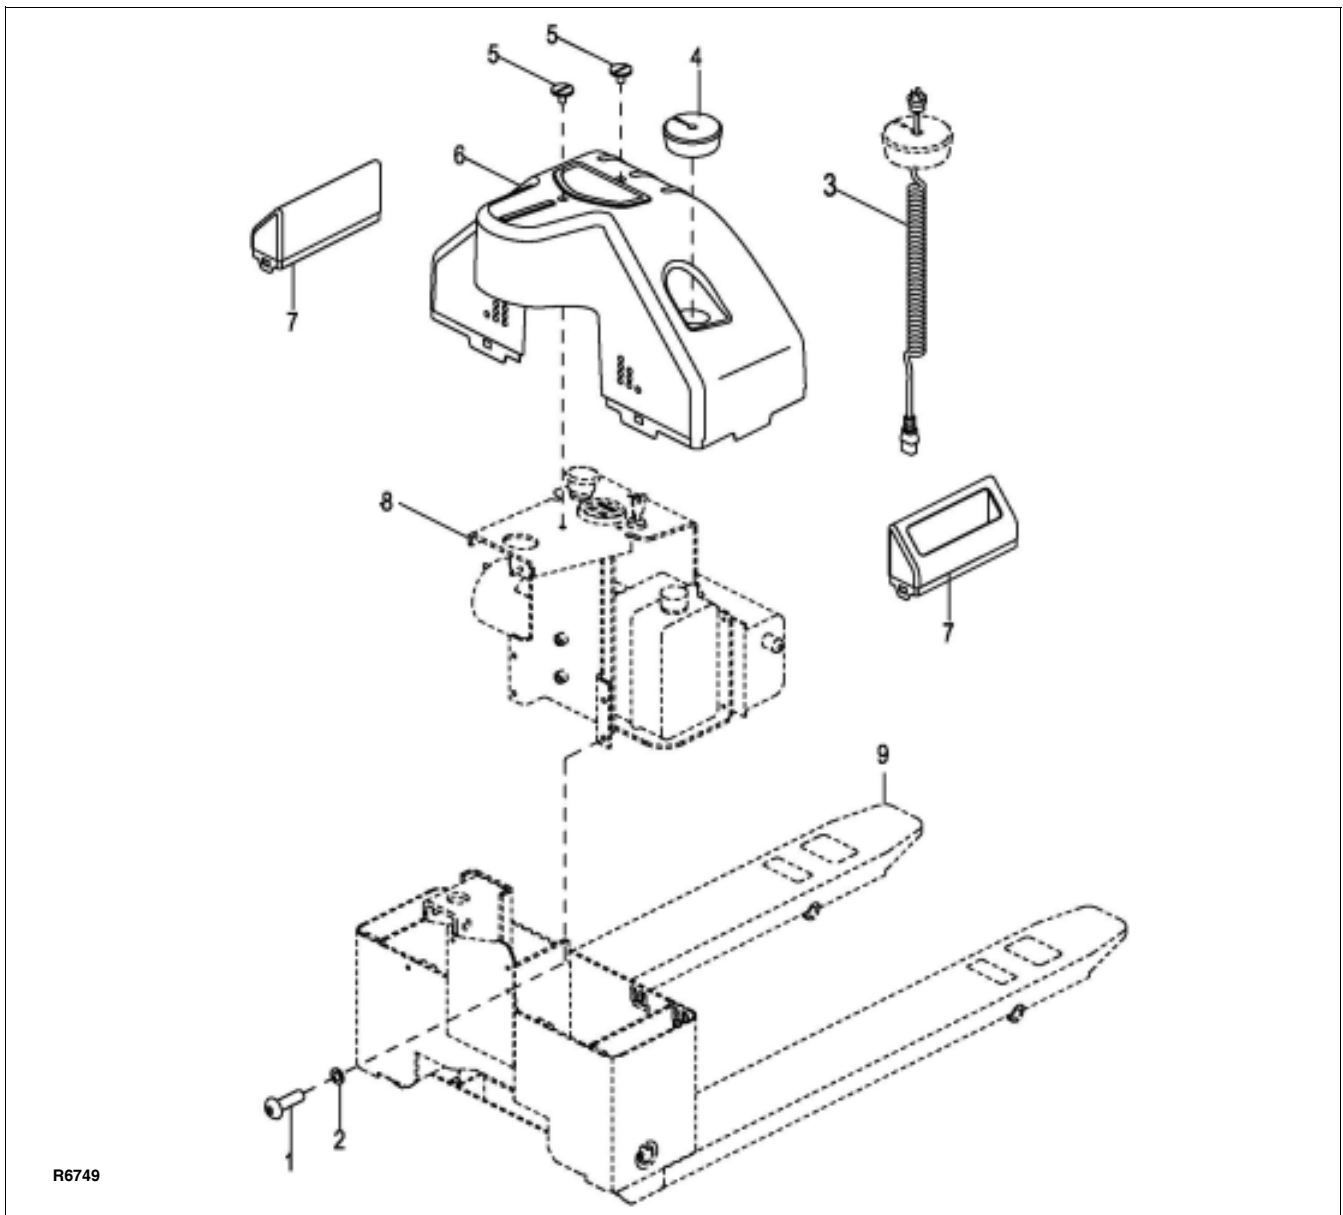

Figure 9-1 Compartment Cover
3. Remove the upper compartment cover (6, Figure 9-1) as described in paragraph 5-2.
4. Remove four screws (1, Figure 9-1), four washers (2) and move assembly (8) away from frame (9).
1. Position assembly (8) on frame (9) and secure with four screws (1, Figure 9-1), and four washers (2).
3. Remove the hydraulic and electrical assembly (8, Figure 9-1) as described in paragraph 9-2.